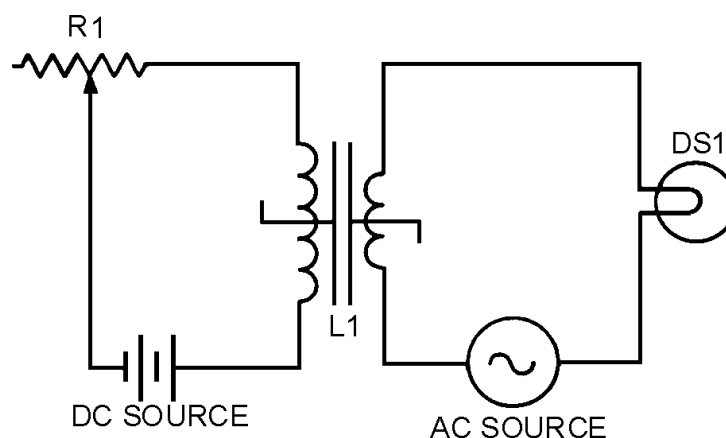

Figure 3-33.—Schematic diagram of a simple saturable-core reactor.
The schematic diagram of this circuit is shown in figure 3-33. L1 is the schematic symbol for a saturable-core reactor. The control winding is shown with five loops, and the load winding is shown with three loops. The double bar between the inductors stands for an iron core, and the symbol that cuts across the two windings is a saturable-core symbol indicating that the two windings share a saturable core.
- Q-45. What symbol in figure 3-33 indicates a saturable core connecting two windings?